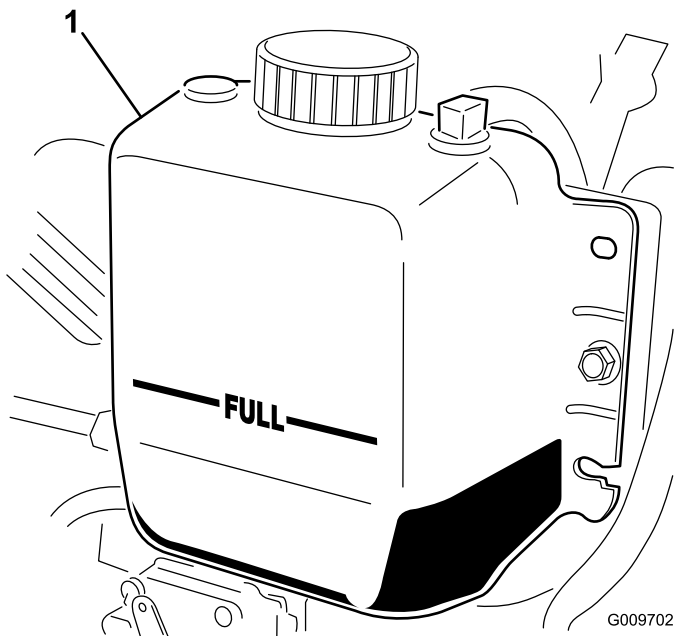

Figure 61
2. Check the coolant level in the radiator. The radiator should be filled to the top of the filler neck and the expansion tank filled to the FULL mark (Figure 61).